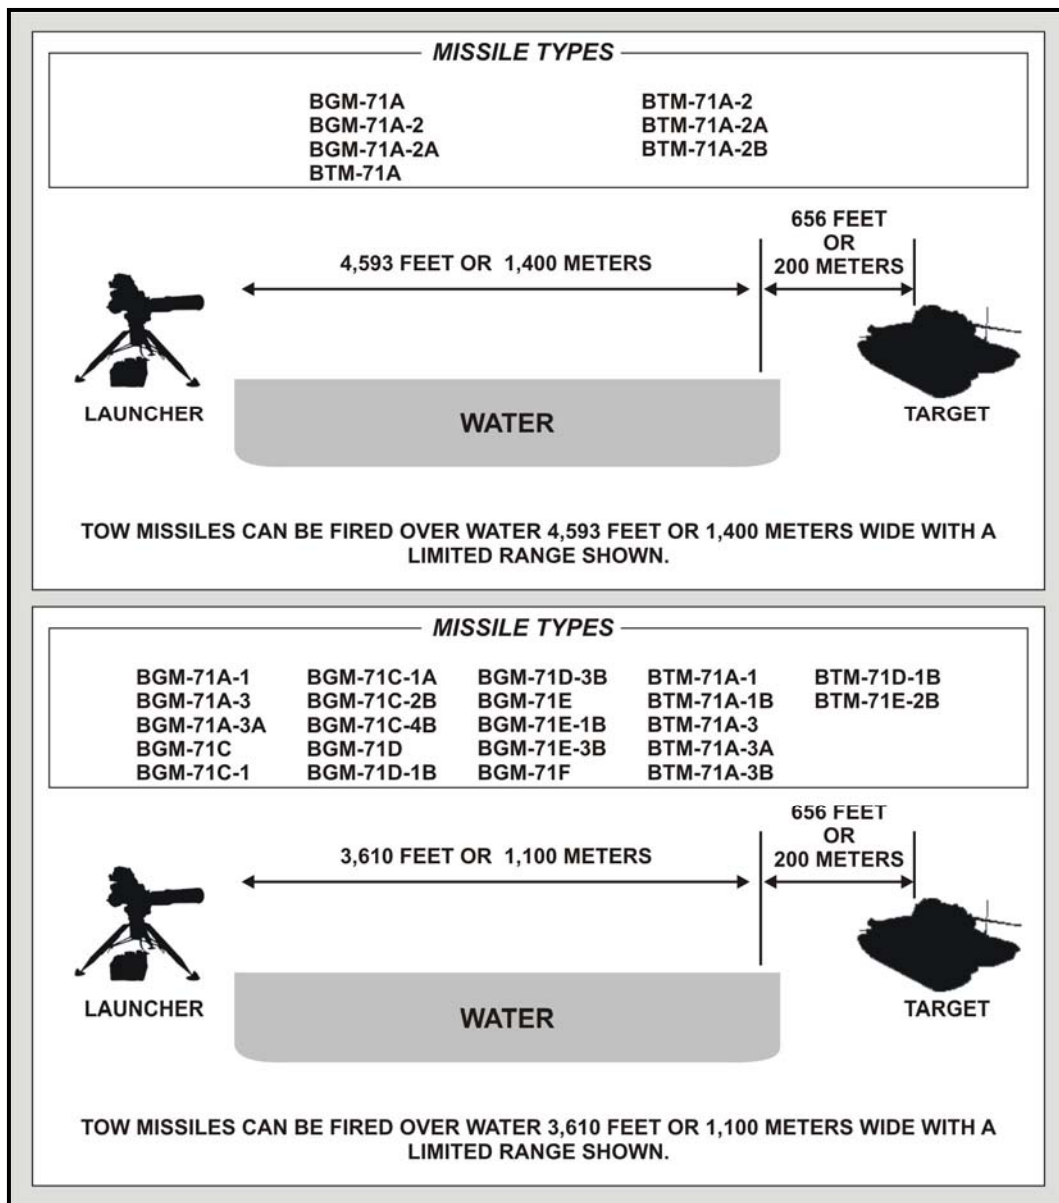

Figure 4-2. Limited TOW range over water.
b. TOW missiles may be fired over water to a limited range as shown in Figure 4-2.